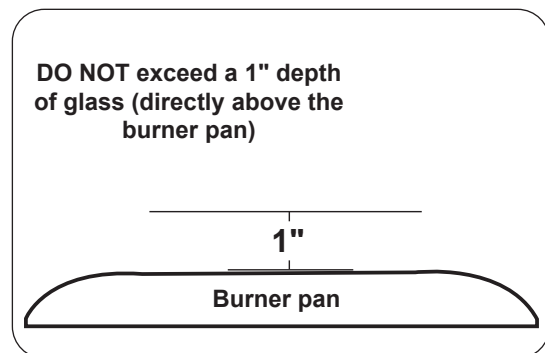

Fig. 13-2 Proper media placement
- **DO NOT** exceed a 1" depth of glass (directly above the burner pan) as shown in Fig. 13-2. Any additional glass/gems above the burner may cause unsafe operation.